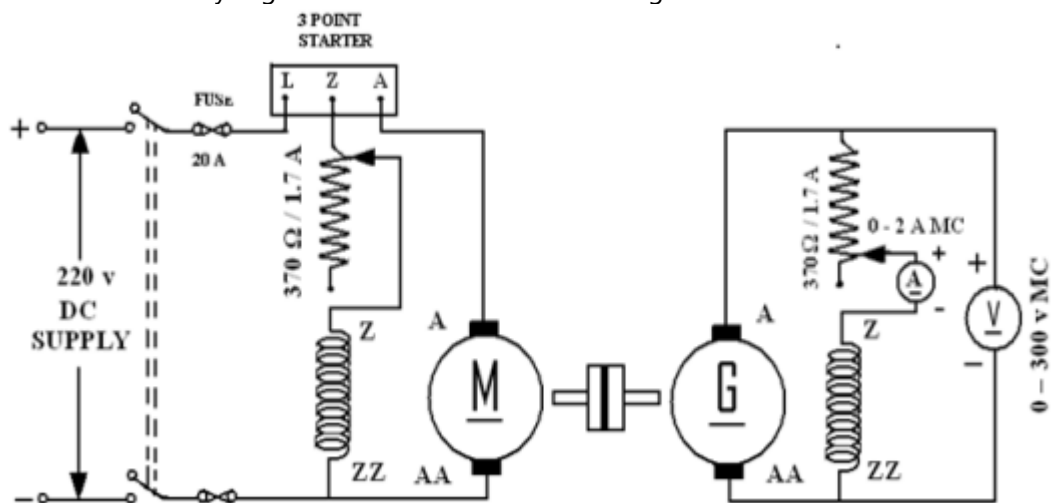

Figure 1 - MAGNETIZATION CHARACTERISTIC
2. Using magnetization characteristics calculate the critical speed of DC shunt generator at 100 ohms in figure 1.